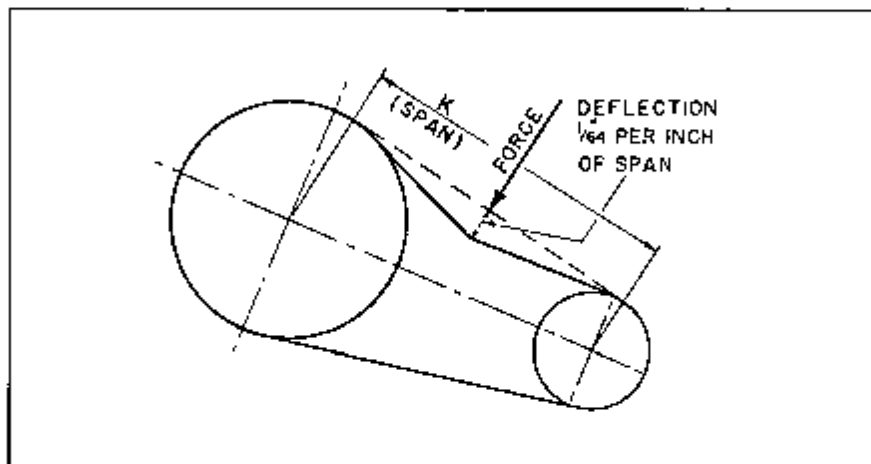

FIGURE 9
2. Measure the span length K, see figure 9.
3. Apply the force (perpendicular to span at center of the span) required to deflect the belt $1/64''$ per inch of span length (K). See figure 9. The force can be applied by means of a simple spring scale.